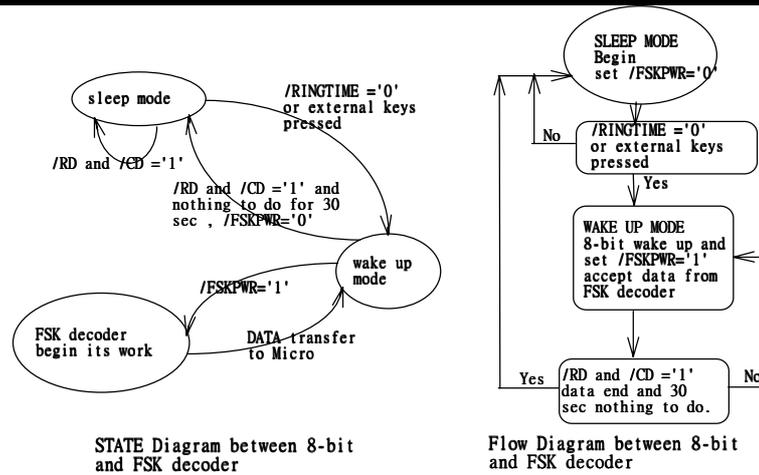

Fig6. The relation between Bit0 to Bit3.
* The relation between Bit0 to Bit3 is shown in Fig.6.